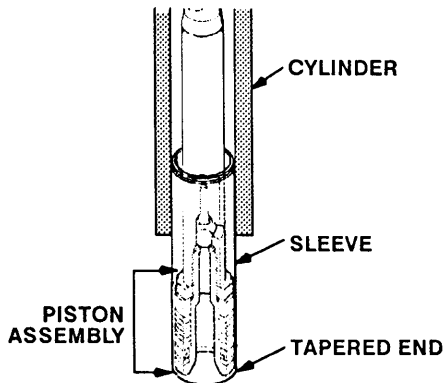

Fig 20
NOTE: The tapered end of the sleeve is the bottom of it. See Fig 20.
- Slide the sleeve/piston rod assembly **INTO THE BOTTOM OF THE CYLINDER** (219). This is to prevent packing damage during reassembly. See Fig 20.